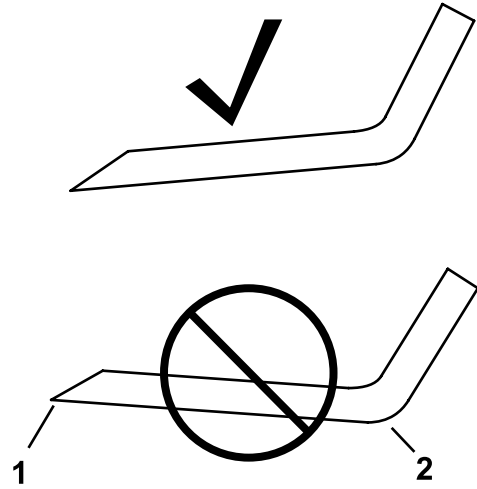

**Figure 70**
4. Inspect the cutting edges of all the blades. Sharpen the cutting edges if they are dull or nicked, sharpen only the top of the cutting edge, and maintain the original cutting angle to ensure sharpness (Figure 70).